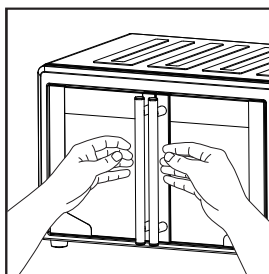

Figure 1
1. With two hands, carefully grab the center of both handles with your fingertips (See Figure 1).